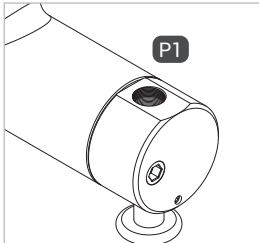
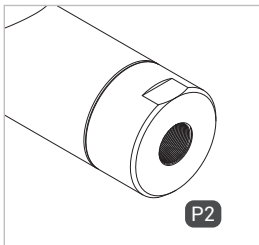

Figure 2
Figure 3
- ▶ Screw the pilot pressure port 'P1' (*Figure 2*) or 'P2' (*Figure 3*) pressure-tight to the connection port of the pilot pressure line.